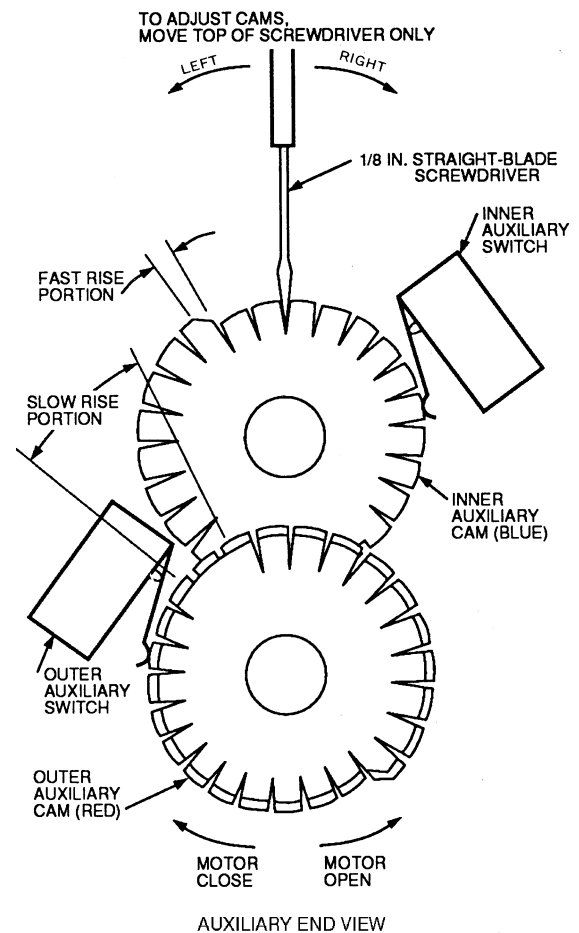

Fig. 37 — Auxiliary Switch Adjustment
- For size 034-048 units: Remove damper motor top cover and verify that pointer points at number 35. If installing new motor, use screwdriver to turn blue cam so pointer lines up with the number 35. See Fig. 37.
- For size 054-074 units: Remove damper motor top cover and verify that pointer points at number 63. If installing new motor, use screwdriver to turn blue cam so that pointer lines up with the number 63. See Fig. 37.
- If motor no. 2 was energized too soon (Step 4 of the test above was yes), turn blue cam one click to left (see Fig. 37). If motor no. 2 was not energized (Steps 4 and 5 of the test above were no), turn blue cam one click to the right (see Fig. 37).